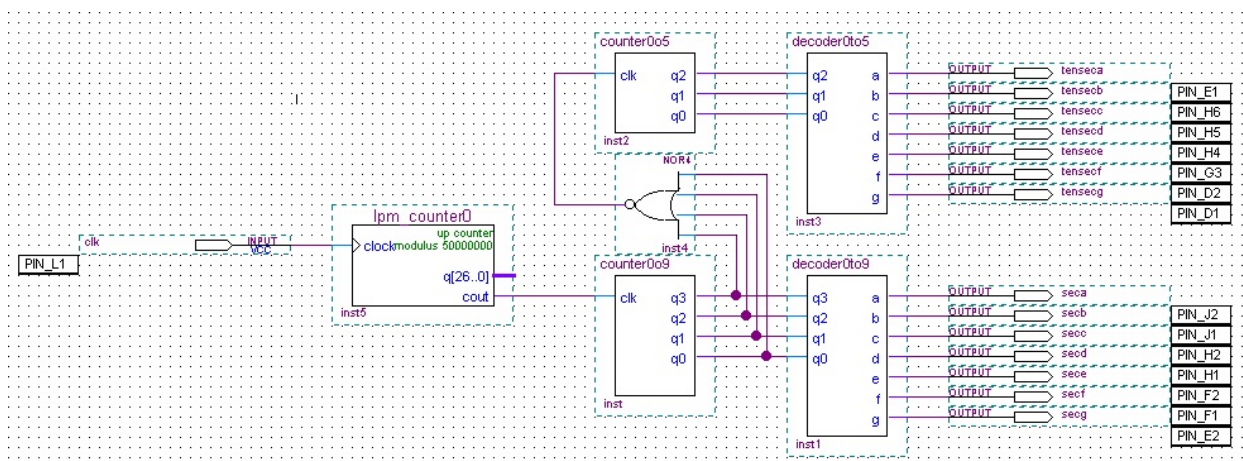

Figure 6.14 Compile the circuit with pin assignments
4. Compile the circuit with pin assignments as shown in Figure 6.14 and ensure no error (Ignore warning/s).